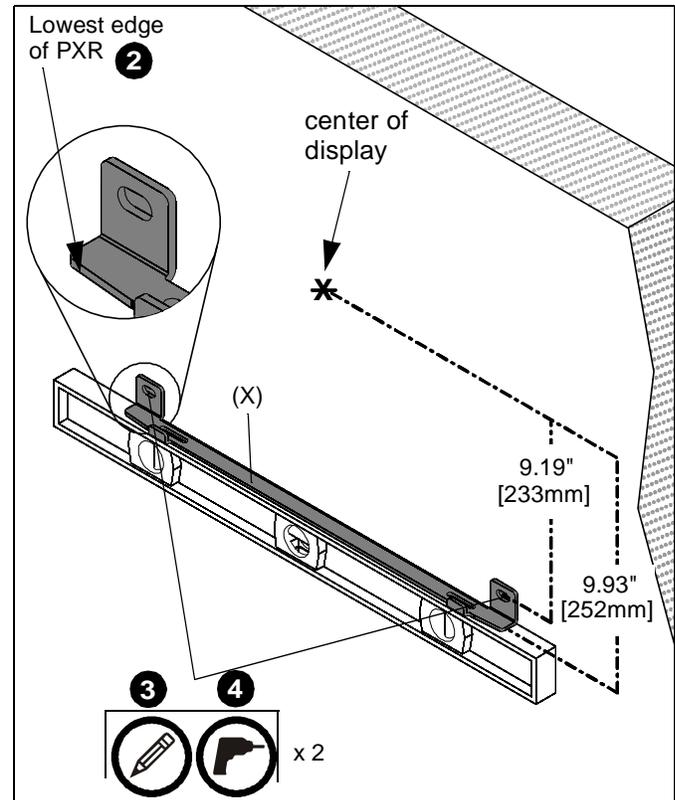

Figure 9
**IMPORTANT ! :** When considering the PXR location, keep in mind that the distance from the lowest edge of the PXR assembly to the center of the interface brackets (which will also be the center of the display) is 9.93" (252mm). The distance from center of the mounting hole in the mounting bracket to the center of the display is 9.19" (233mm). (See Figure 4) and (See Figure 9)
- Use a level to mark the lowest edge of PXR. (See Figure 9)
- Place mounting bracket (X) along marked line on top of level, and mark location of pilot holes. (See Figure 9)
- Drill two 5/16" x 3-1/4" (M8 x 82.5mm) pilot holes at locations marked in Step 3. (See Figure 9)